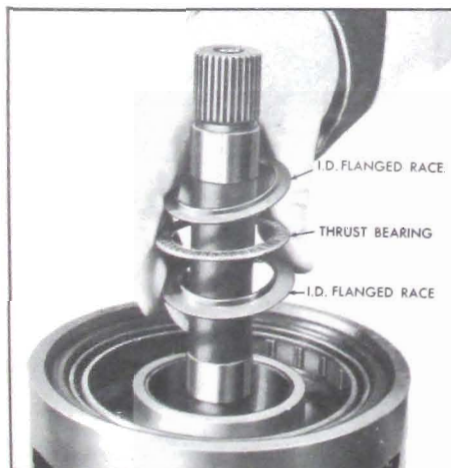

Figure 5-682 -
c. Install the second race, center flange up. See Figure 5-682.